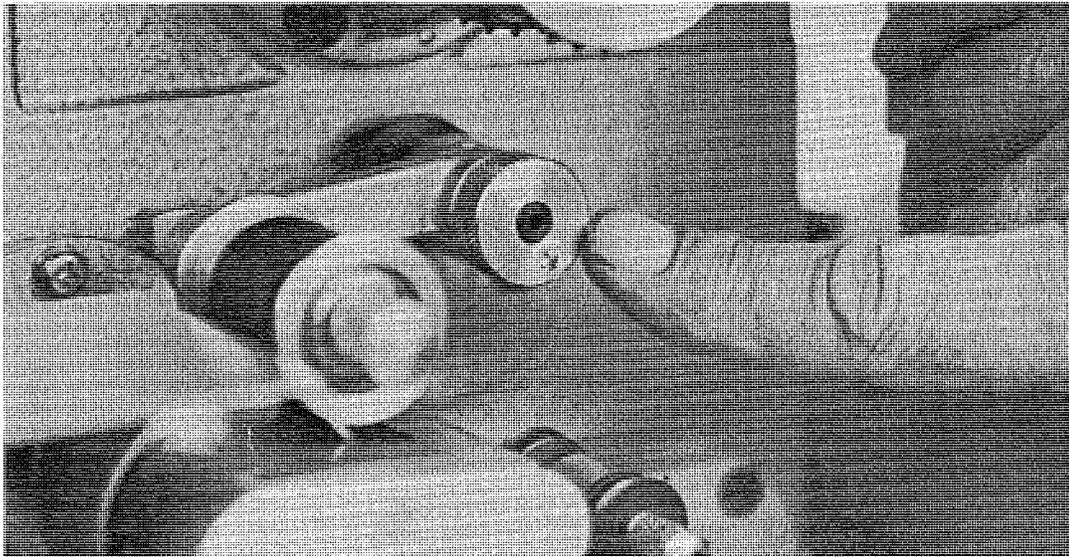

Fig. 6-1: Damper Arm Adjusting Collar
- 6.3.2 Thread a loop (or reel-to-reel length) of SMPTE Buzz Track Test Film (P35-BT) through the projector, and run the projector with the exciter lamp, sound system and booth monitor speaker on. If you hear either a high or low frequency buzz through the system, turn the projector off and loosen the Locking Screw (TSR-M-7E) in the knurled Damper Arm Adjusting Collar (TSR-M-7A) (Fig. 6-1). Turn the projector on again and, with finger tip, slowly turn the Collar either clockwise or counter-clockwise until the scanning light beam scans only the center silent portion of the soundtrack and no buzz is heard. The film path is now correctly centered in its lateral plane. Carefully tighten the Locking Screw while listening to the sound output to be certain that the adjustment does not shift as the Screw is tightened. Readjust if necessary.